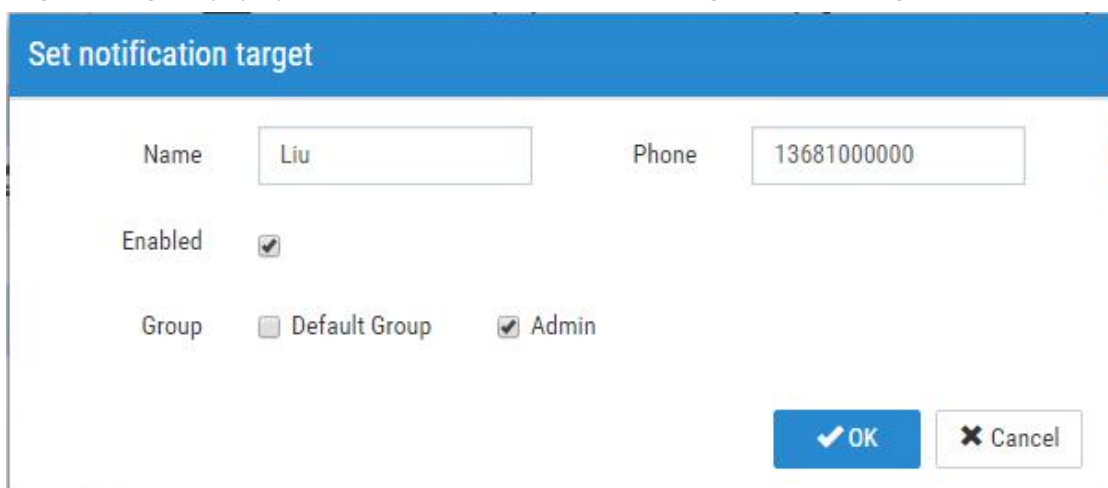

Fig. 4.8-15 The “Set notification target” dialog
(1) After clicking the "Add user" button in the "Contacts" subtab page, the “Set notification target” dialog will pop up. You can add a new user in this dialog, as shown in Fig. 4.8-15.